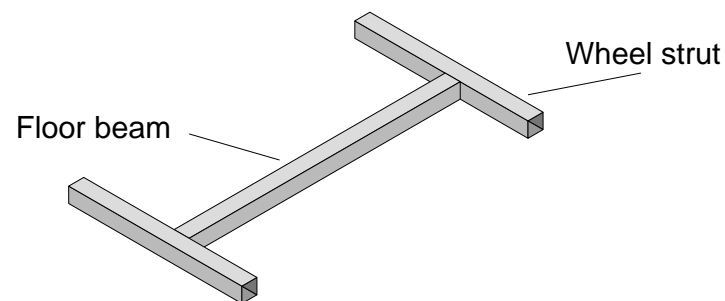

Figure 2: finished H frame.
- 2) Next make up the two H-shaped frames shown in Figure 2. If you have a couple of G clamps you can use them to hold